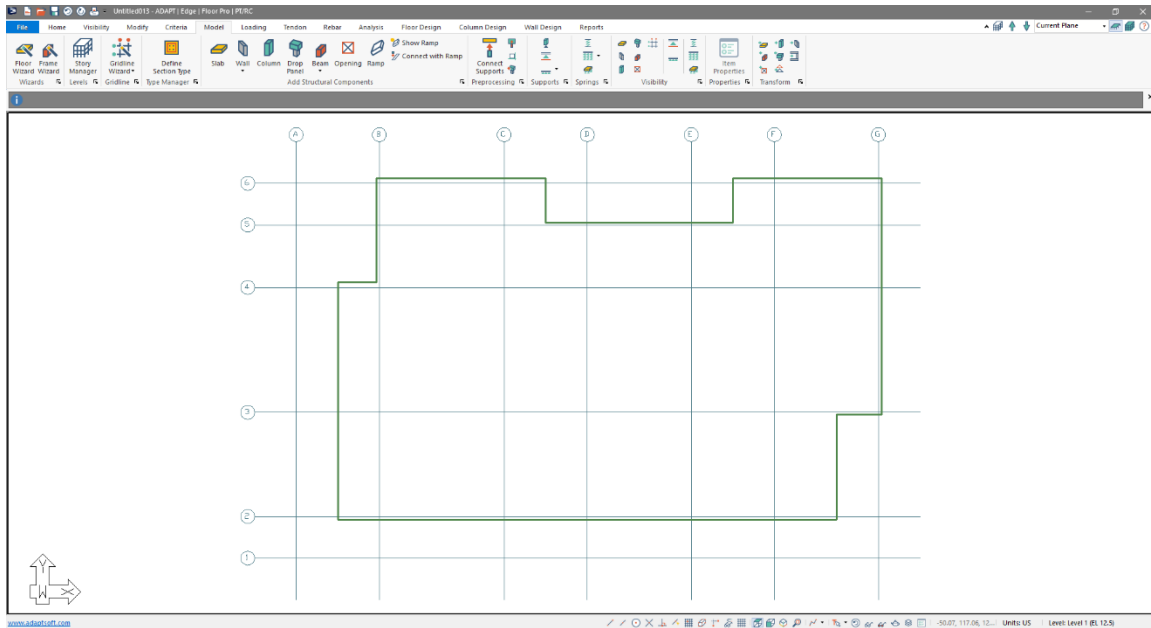

Figure 2-26
- Click on the *Zoom Extents*  icon. The user should see the slab modeled as shown in **FIGURE 2-26**.